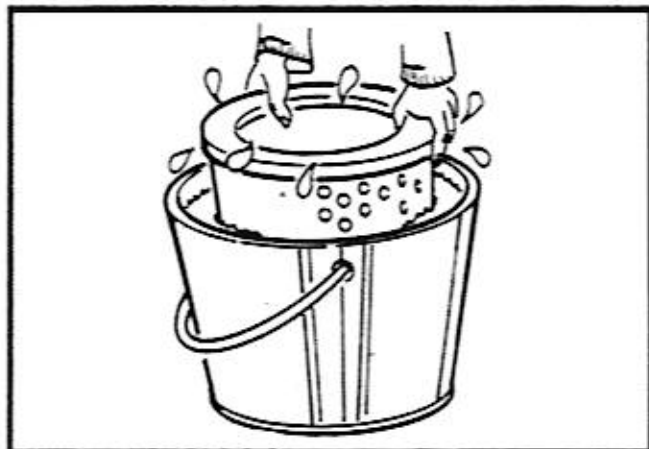

Figure 8-4. Soaking the Element
4. Soak the element in the solution for at least 15 minutes. Refer to Figure 8-4.